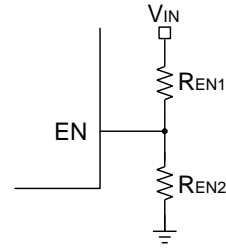

Figure 4: EN Divider Circuit
2. Enable the IC with the programmable V_{IN} under-voltage lockout (UVLO) threshold. With high enough input voltage (V_{IN}), the chip can be enabled and disabled by the EN pin. With the internal current source, this circuit can generate a programmable V_{IN} UVLO and hysteresis (see Figure 4).